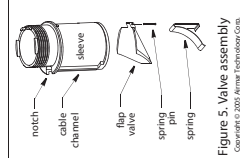

Figure 5. Valve assembly
CAUTION: Be careful to avoid cross threading the CAP nut. Should the valve fail, it will need to be removed for servicing. Follow the steps below. If a replacement is necessary, it should not be immediately available. The valve sleeve must be installed in the multisensor housing for a watertight seal. Remove the flap valve, spring pin, and spring from the sleeve (Figure 5). Then re-install the sleeve in the housing.
4. Clean, repair, or replace the valve assembly so the flap valve moves freely and seats against the sleeve (Figure 5).
7. Remove the safety wire from the multisensor. With the combined valve assembly and paddlewheel insert ready in one hand, remove the blanking plug. Slide the assembly into the multisensor housing with the arrow on the top pointing forward toward the bow. Be sure the cable fits into the cable channel and the notch in the sleeve fits into the key in the housing (Figure 5). (A pushing twisting motion will locate the key.)